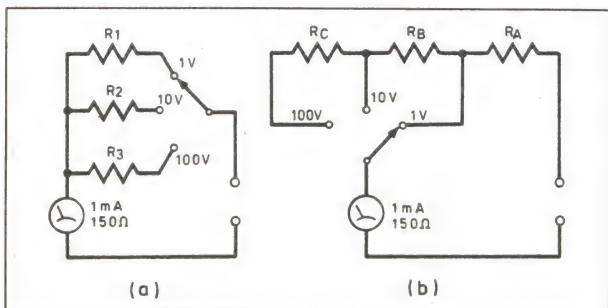

Fig. 4.10. Two simple voltmeter circuits – which would you choose?
5. You have a panel meter which has a f.s.d. of 1 mA and a resistance of 150Ω , and would like to make yourself a simple voltmeter having voltage ranges of 1 V , 10 V and 100 V selected by a switch. Fig. 4.10 shows two ways of building such a switched voltmeter, using three multiplier resistors. Which of these ways would possibly be preferable in a practical design; give your reasons? Calculate the required values of the resistors needed for each circuit.